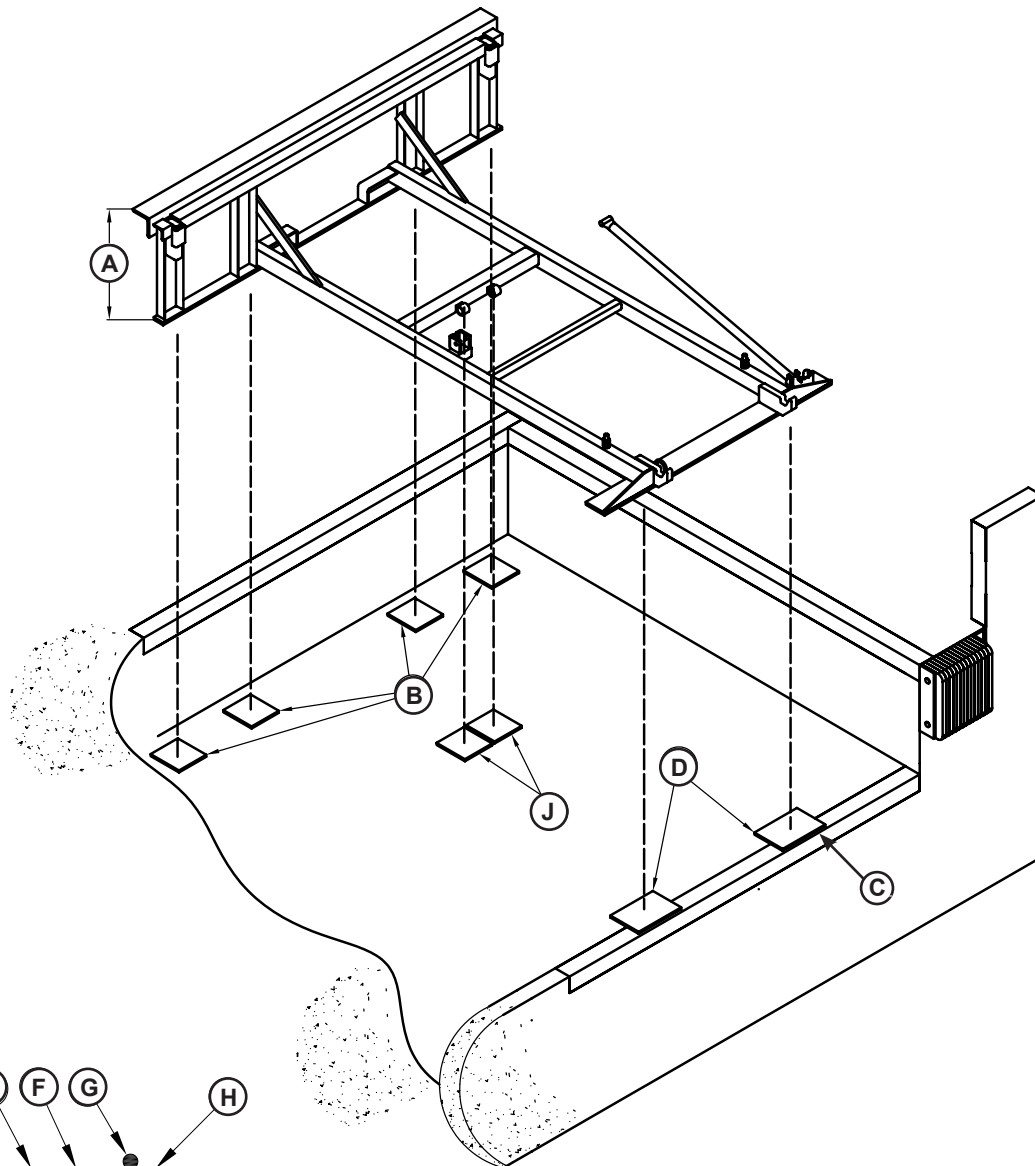
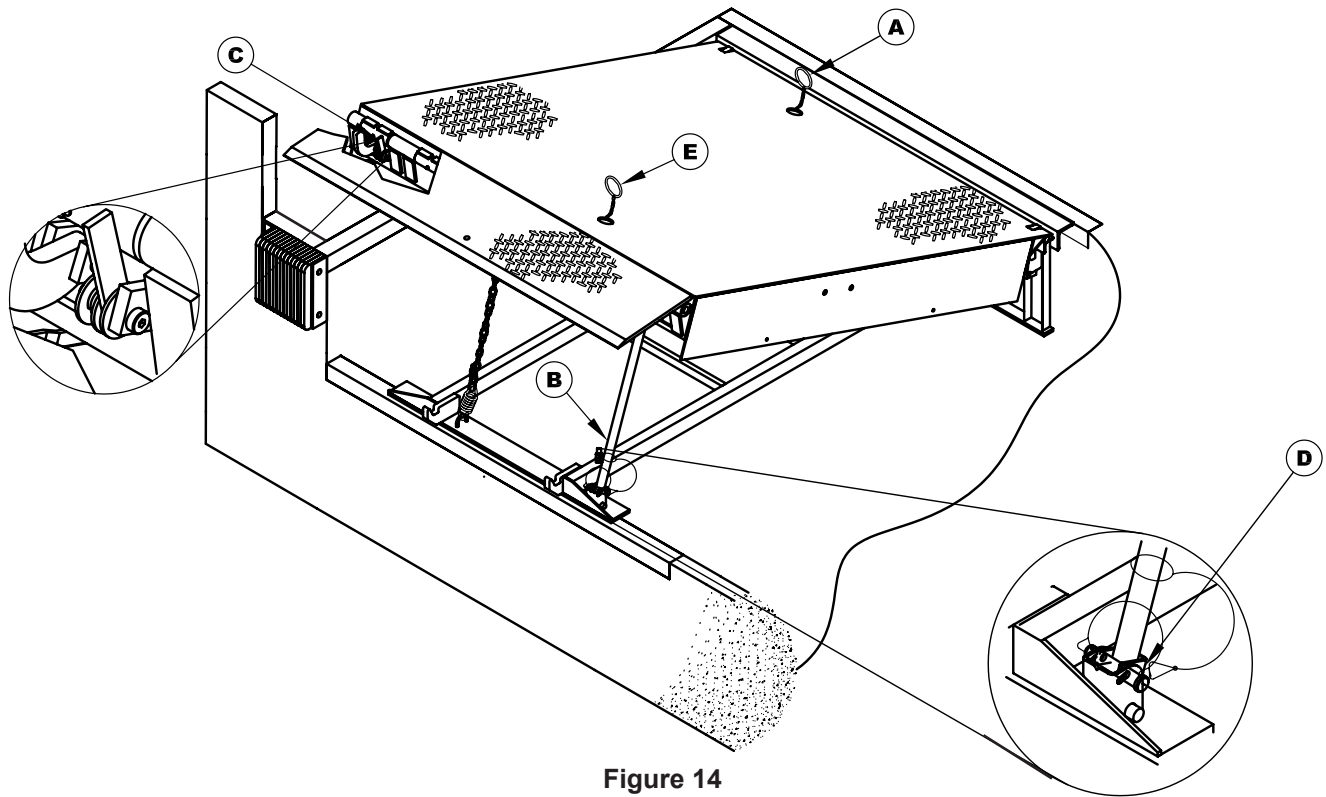

Figure 9
Figure 14
22. Shim and weld the maintenance prop (Figure 14):
a. Install shims under maintenance prop (B) where prop attaches to leveler frame. Make sure prop is solidly shimmed.
b. Raise maintenance prop (B) to the service (upright) position and lock prop in this position using an OSHA approved locking device.
23. Install shims under lift arm (J, Figure 9 on page 14) at locations using an acceptable shimming method (see Figure 15). The lift arm pivot must be solidly shimmed the entire length of the lift arm pivot. Make sure the lift arm pivot is level from side-to-side.